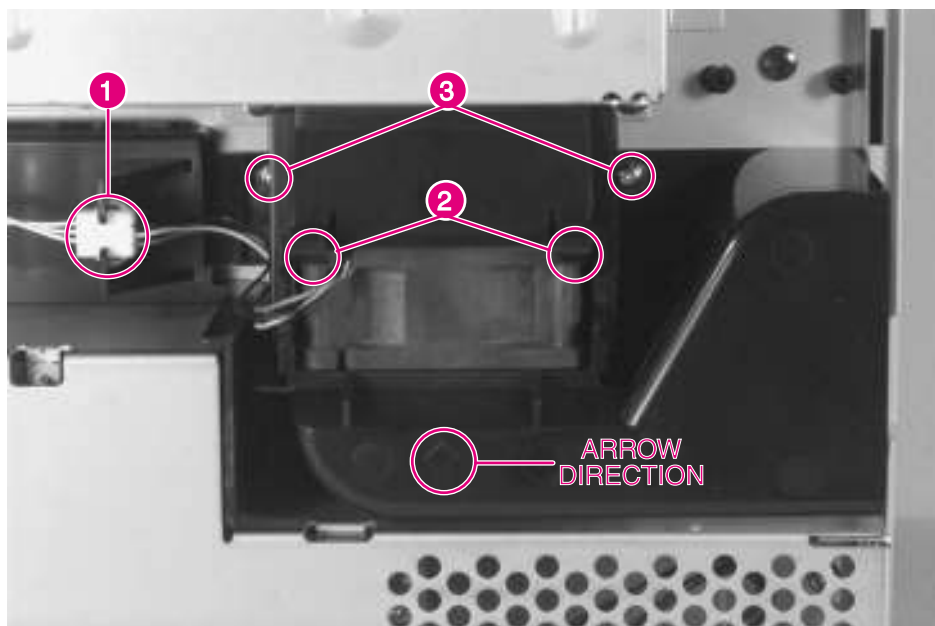

Figure 6-22 Fan 3, Formatter Fan
- 2 Unplug the fan connector (figure 6-22, callout 1).
- 3 Release the 2 retainer clips (figure 6-22, callout 2), and slide the fan out of the housing assembly.